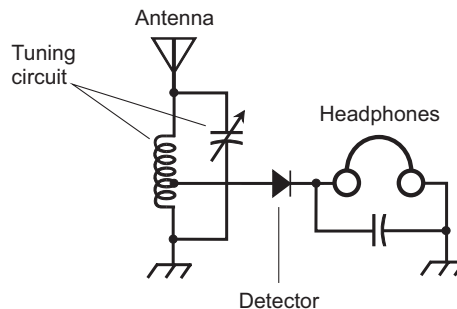

FIGURE 6-3 Schematic diagram of a crystal-set radio receiver.
One of the earliest diodes, known as a *cat's whisker*, comprised a thin wire in contact with a fragment of the mineral *galena*. This contraption could rectify weak RF currents. When experimenters connected the cat's whisker in a configuration, such as the circuit of Fig. 6-3, the resulting device picked up amplitude-modulated (AM) radio signals and produced audible output in the headset. The diode recovered the